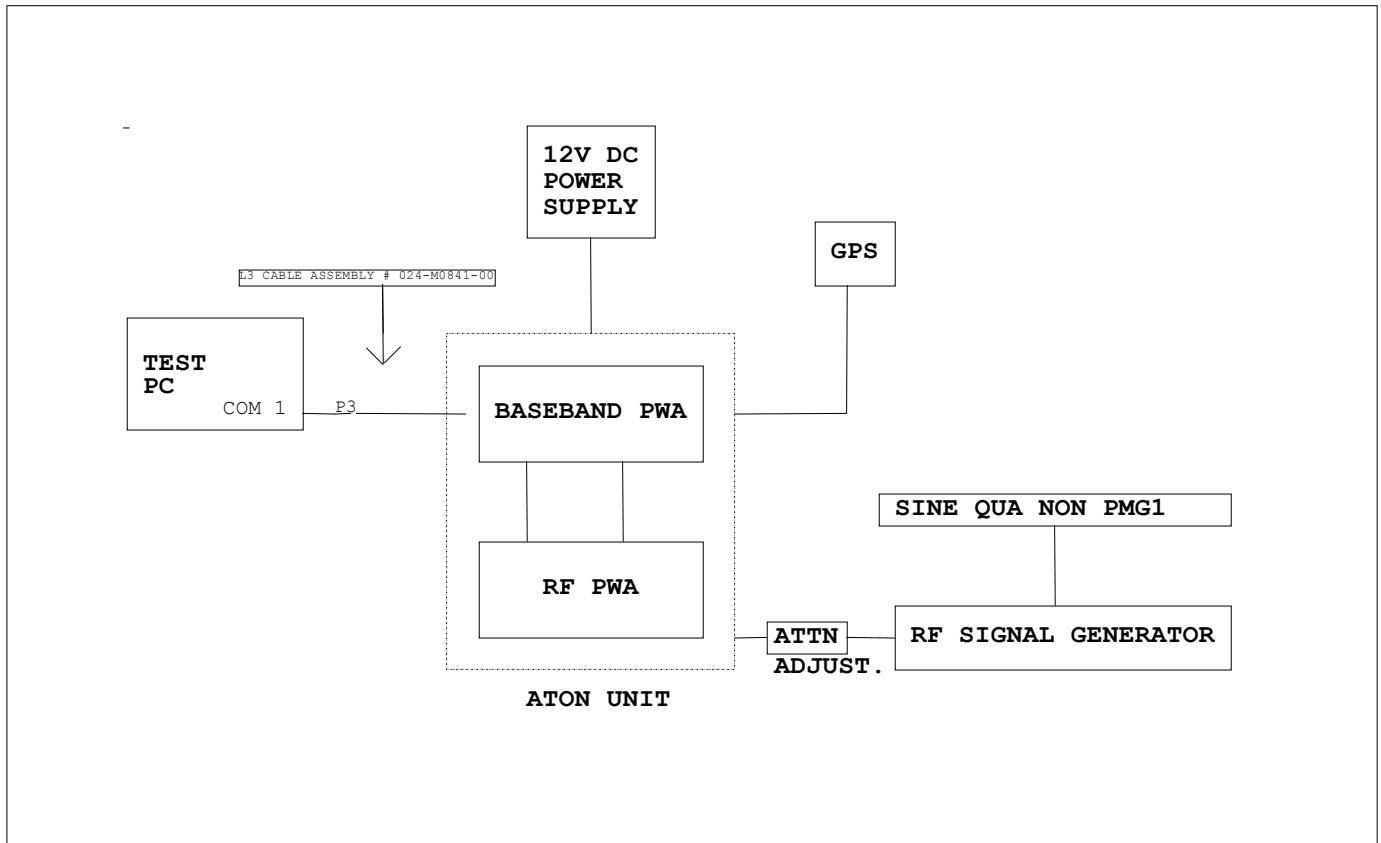

Figure 7
1. Configure the UUT per Figure 7 with the exception of: **(Do not connect the GPS signal, connecting the GPS signal while performing a receiver test could cause**